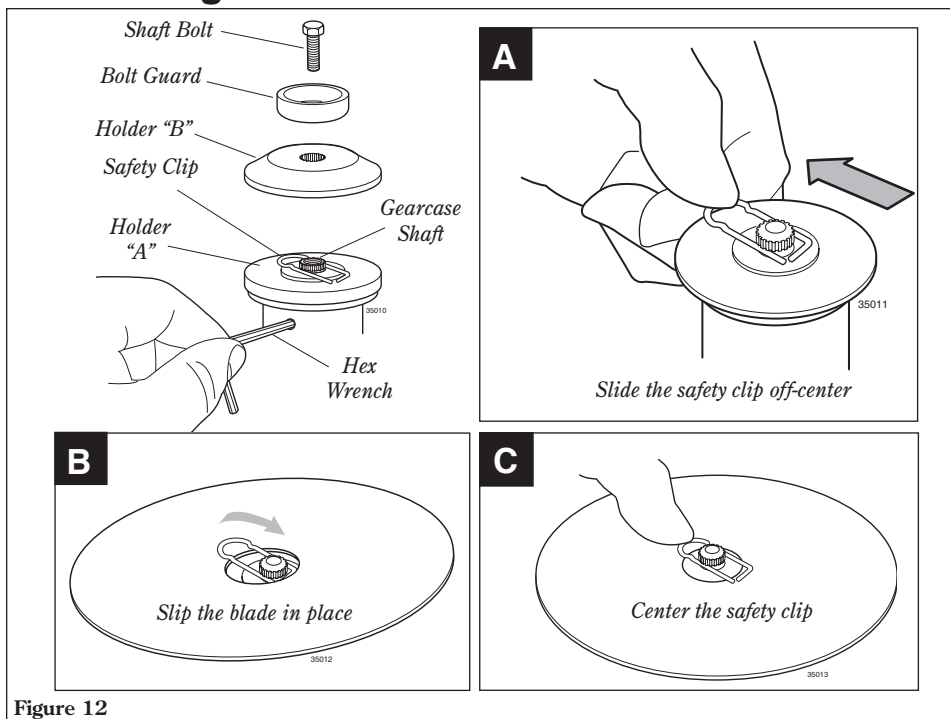

Figure 12
1. With the gearcase output shaft facing up, rotate the gearshaft and holder "A" until the hole in holder "A" aligns with the matching hole in the gearcase flange, and then lock the holder to the gearcase by inserting the long end of the hex wrench through both holes. See Figure 12.
2. Remove the shaft bolt, bolt guard and holder B. See Figure 12.
3. Slide the safety clip off center on the gearcase shaft. See Figure 12-A.
4. Slide the blade over the safety clip and onto the flange on Holder "A." See Figure 12-B.
5. Lock the blade on the shaft by centering the safety clip. See Figure 12-C.